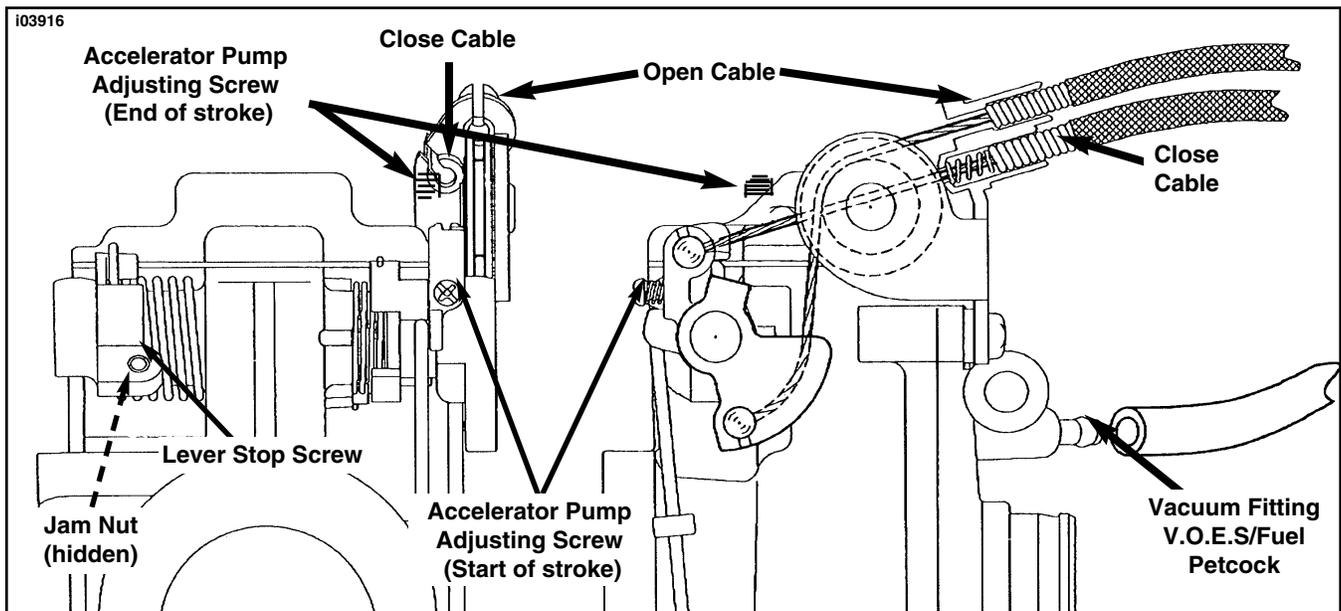

Figure 4. Cable Installation
3. Connect the "close" cable first, then install the "open" cable. See Figure 4 for close-up of cable installation.
11. Refer to Figure 4 on Page 3. Refer to the applicable Harley-Davidson Service Manual and adjust throttle cables following the instructions given. Adjust throttle cable so throttle valve (slide) opens fully. Lever stop screw should touch carb body at wide open throttle. To adjust lever stop screw, loosen jam nut and turn screw in (clockwise) or out (counterclockwise), respectively.
4. Connect the “close” cable first, then install the “open” cable. See Figure 4 for close-up of cable installation.
8. Refer to Figure 4 on Page 3. Refer to the applicable Buell Service Manual and adjust throttle cables following the instructions given. Adjust throttle cable so throttle valve (slide) opens fully. Lever stop screw should touch carb body at wide open throttle. To adjust lever stop screw, loosen jam nut and turn screw in (clockwise) or out (counterclockwise), respectively.